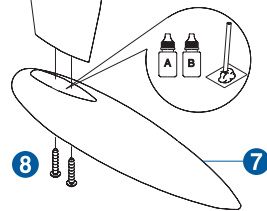

Fig. 8
1. Locate the Keel **6**, Ballast Bulb **7**, and 3x15mm Self-tapping Screws **8** as shown in Fig. 8.